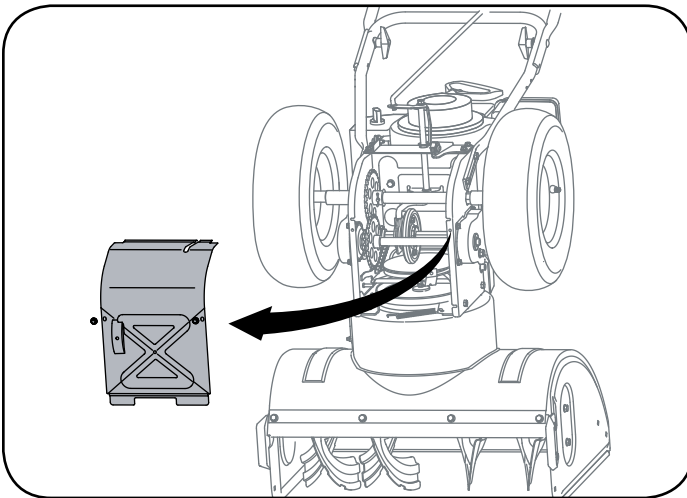

Figure 14
2. Drain the gasoline from the snow thrower, or place a piece of plastic under the gas cap. Carefully tip the snow thrower up and forward, so that it rests on the housing. Remove the self-tapping screws from the frame cover underneath the snow thrower and move the frame cover away. See Figure 14.